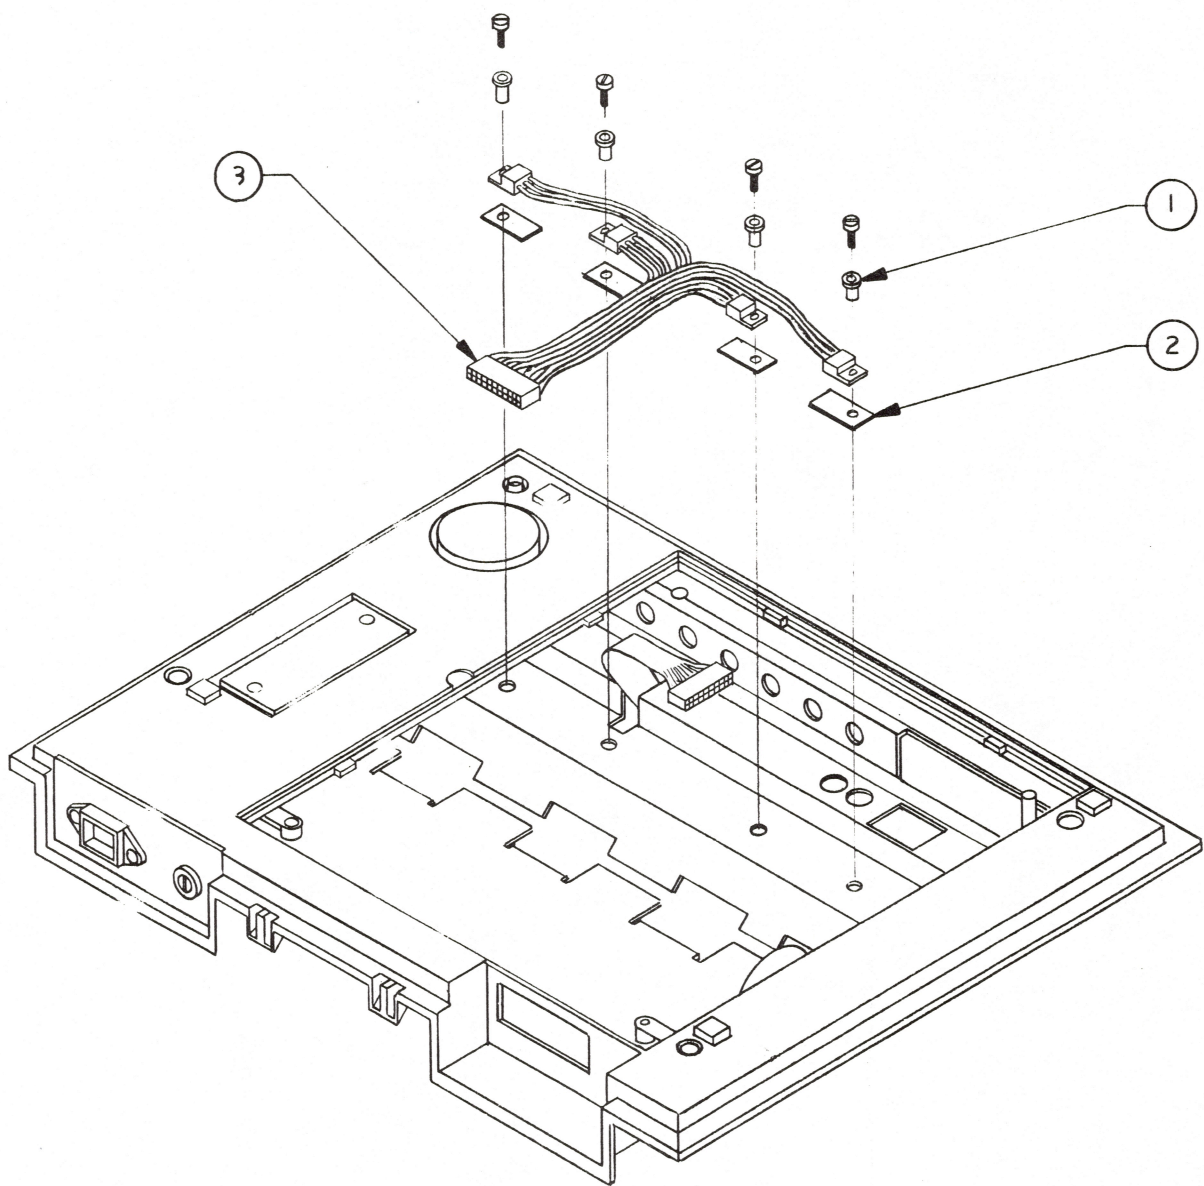

FIGURE 1
2. Turn the printer upside down. With the CPU PC board removed, locate the carrier drive transistor assembly (Figure 1, #3; includes connector, cable, and four transistors).